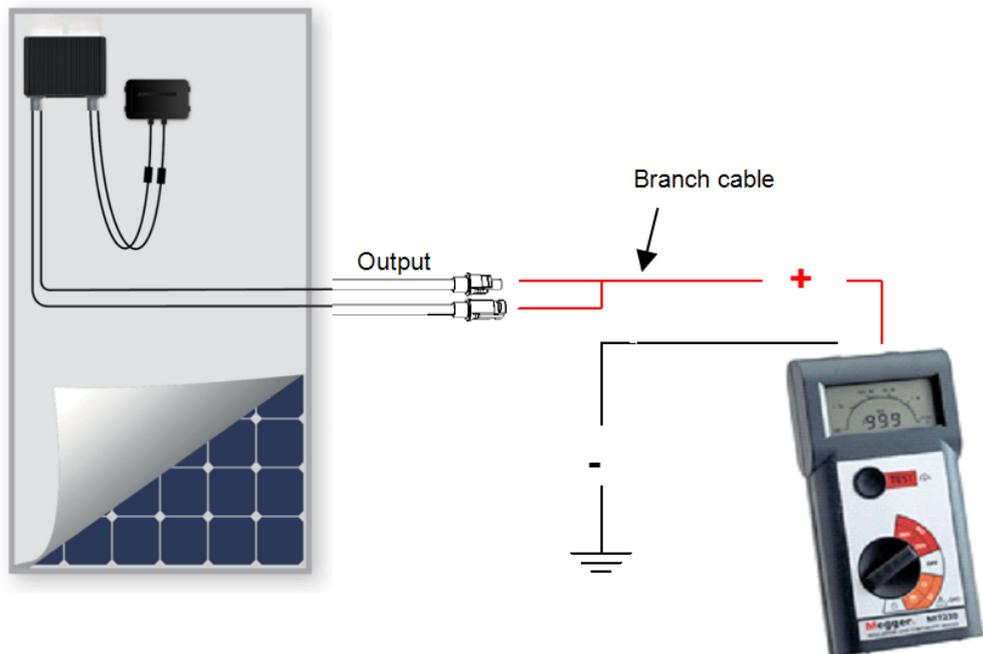

Figure 3: Connecting the insulation tester to the power optimizer and module
5. Test the power optimizers' and modules' resistance using the insulation tester (Figure 3):